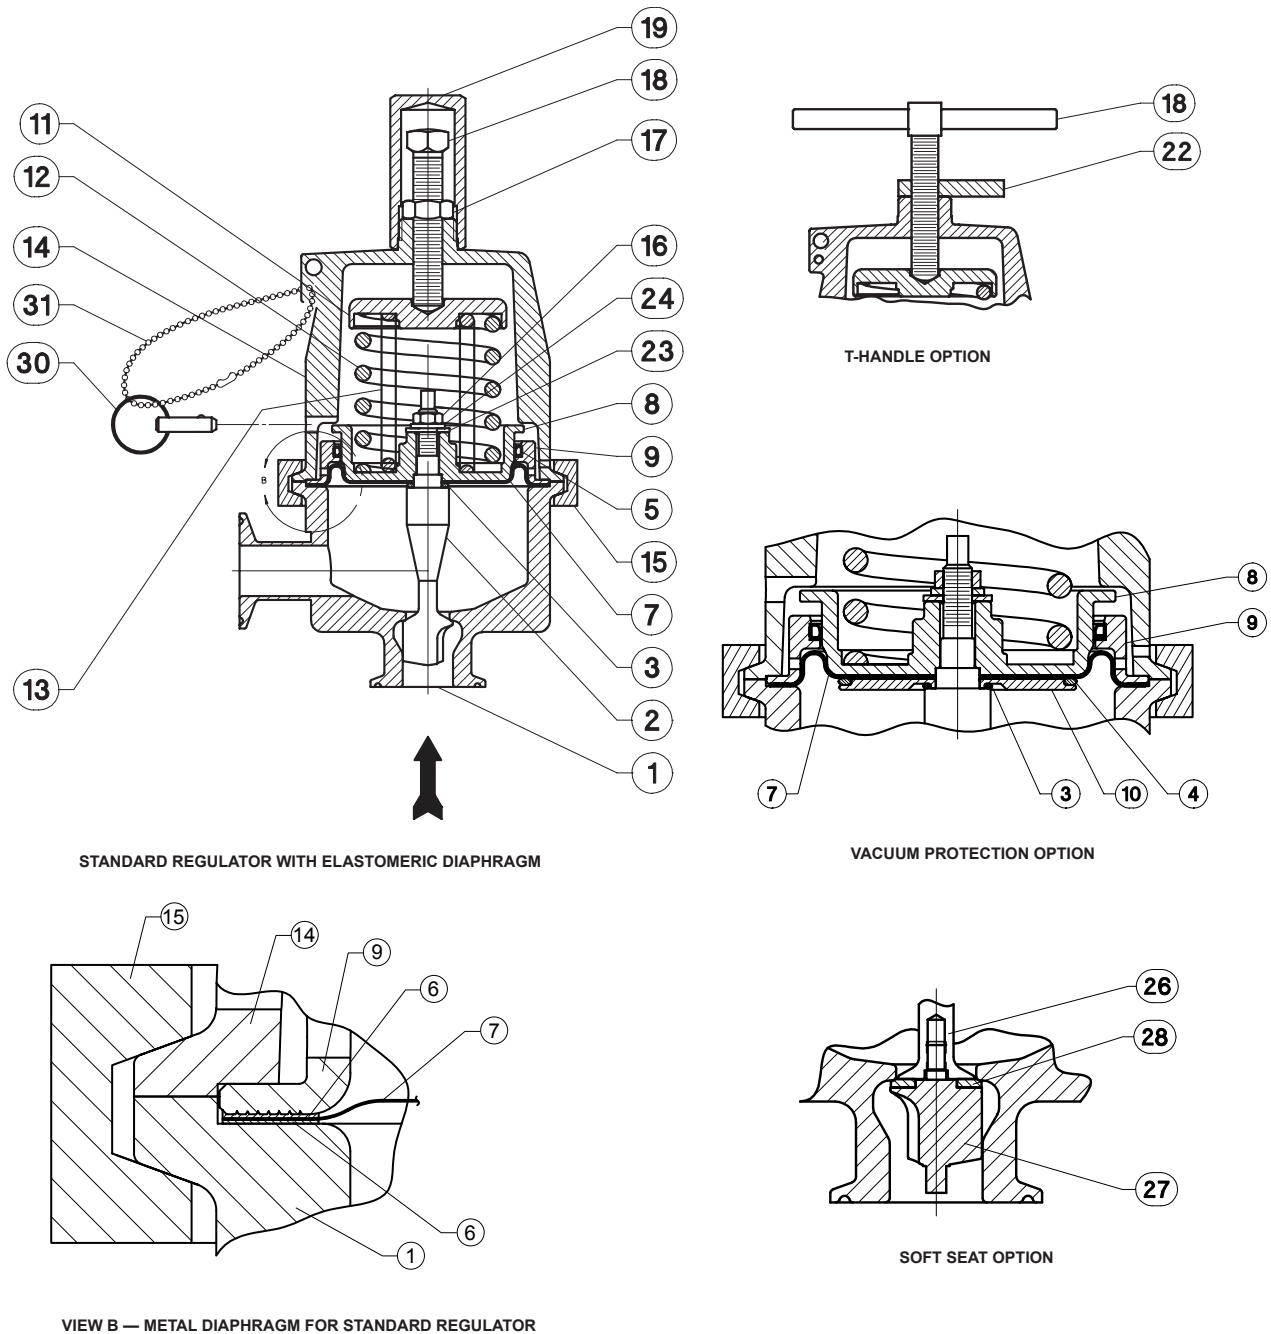

Figure 1. Type SR5 Sanitary Regulator Assembly
The regulator is factory set at approximately the midpoint of the spring range or the pressure requested, so an initial adjustment may be required to give the desired results. **Make sure the CIP/SIP Pin (key 30, Figure 1) is not installed in the spring case.** With proper installation completed and relief valves properly adjusted, slowly open the upstream and downstream shutoff valves.
To avoid personal injury resulting from sudden release of pressure, isolate the regulator from all pressure before attempting disassembly. Relieve all spring compression and isolate regulator from the pressurized system prior to removing the clamp (key 15, Figure 1).